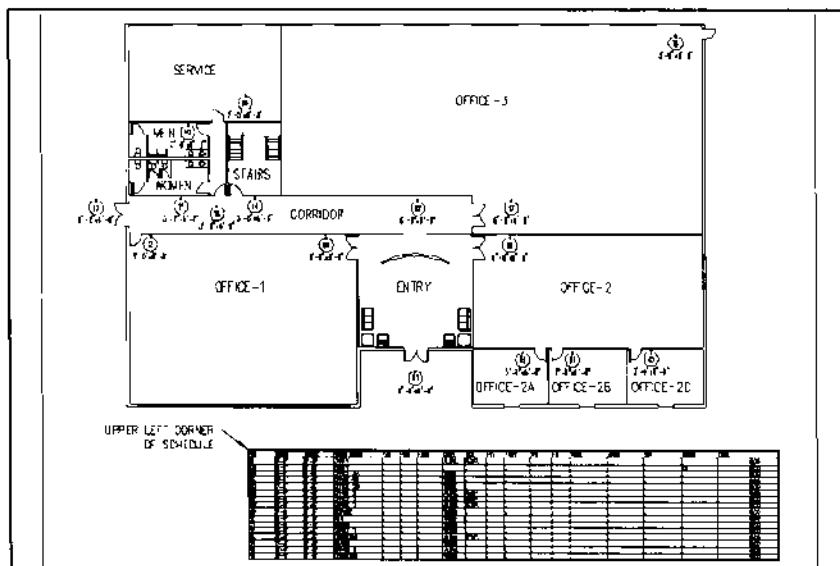

Figure 22.
5. The entire plan with the schedule is shown in Figure 22.
- > Pick upper left corner of schedule: [select a point in lower portion of drawing as shown in Figure 22]